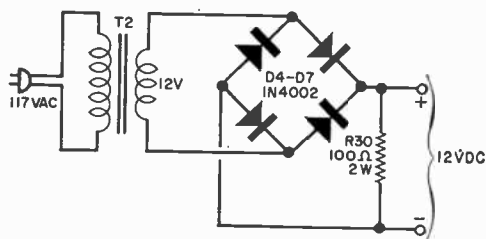

Fig. 4. This simple power supply can be used to power the receiver. No filter is shown as this is provided by components mounted on the PC board.
**Power Supply and S-Meter.** Any type of 12-volt dc power supply may be used with the receiver. One suitable circuit is shown in Fig. 4. Note that no filtering is shown since there are filters on the receiver PC board.